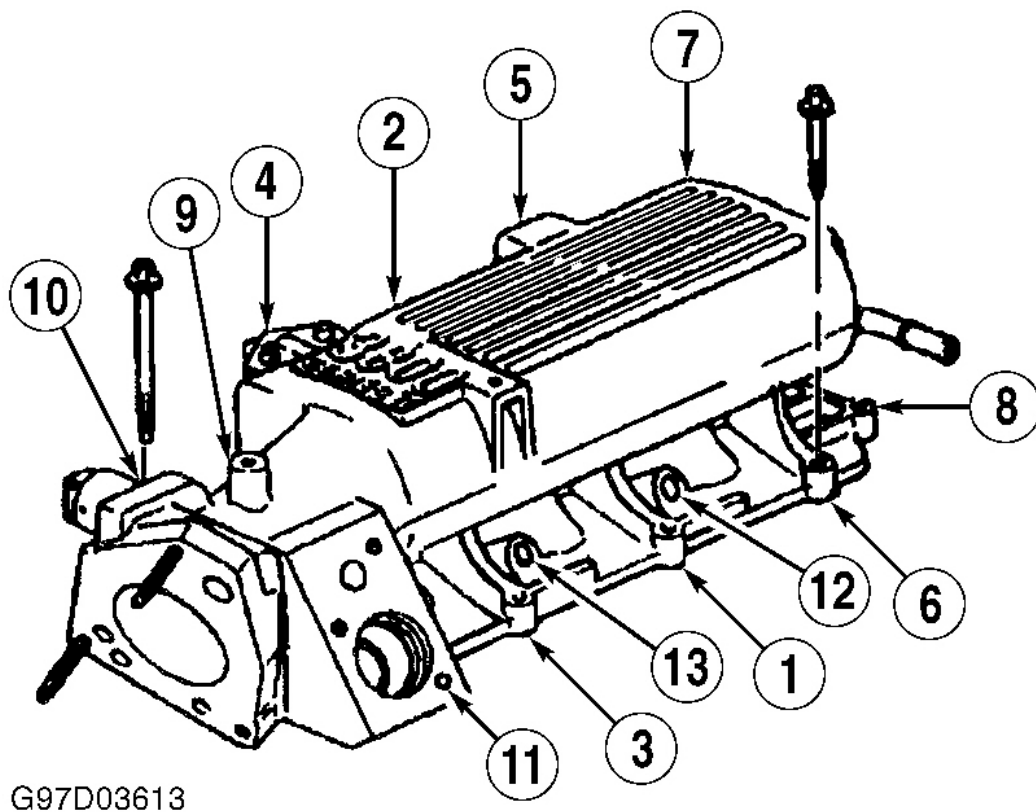
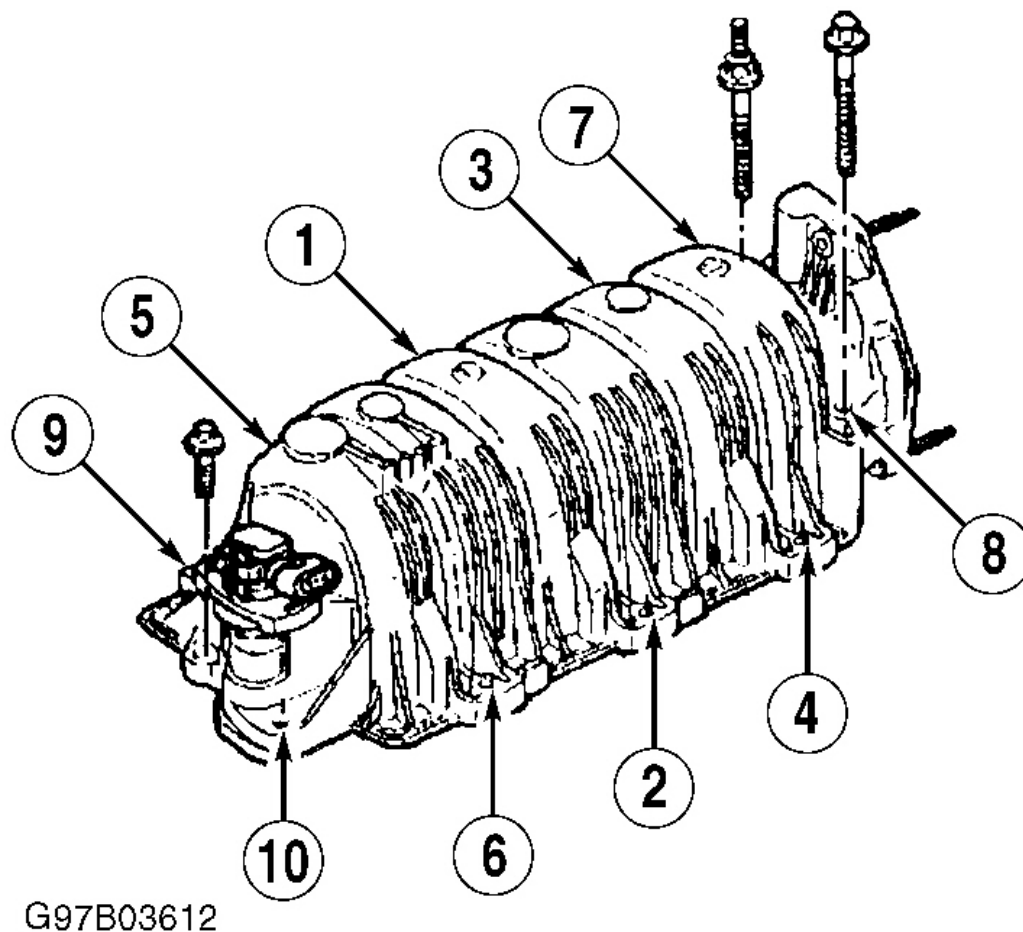

Fig. 6: Upper Intake Manifold Bolt Tightening Sequence ("F" Body)
Fig. 7: Upper Intake Manifold Bolt Tightening Sequence (Except "F" Body)
2. Coat bolt threads with thread locking compound. Tighten intake manifold bolts in sequence to specification. See **Fig. 6** and **Fig. 7**. See **TORQUE SPECIFICATIONS**. Lubricate fuel rail "O" rings with engine oil. To complete installation, reverse removal procedure. Fill and bleed cooling system. See **COOLING SYSTEM BLEEDING**.